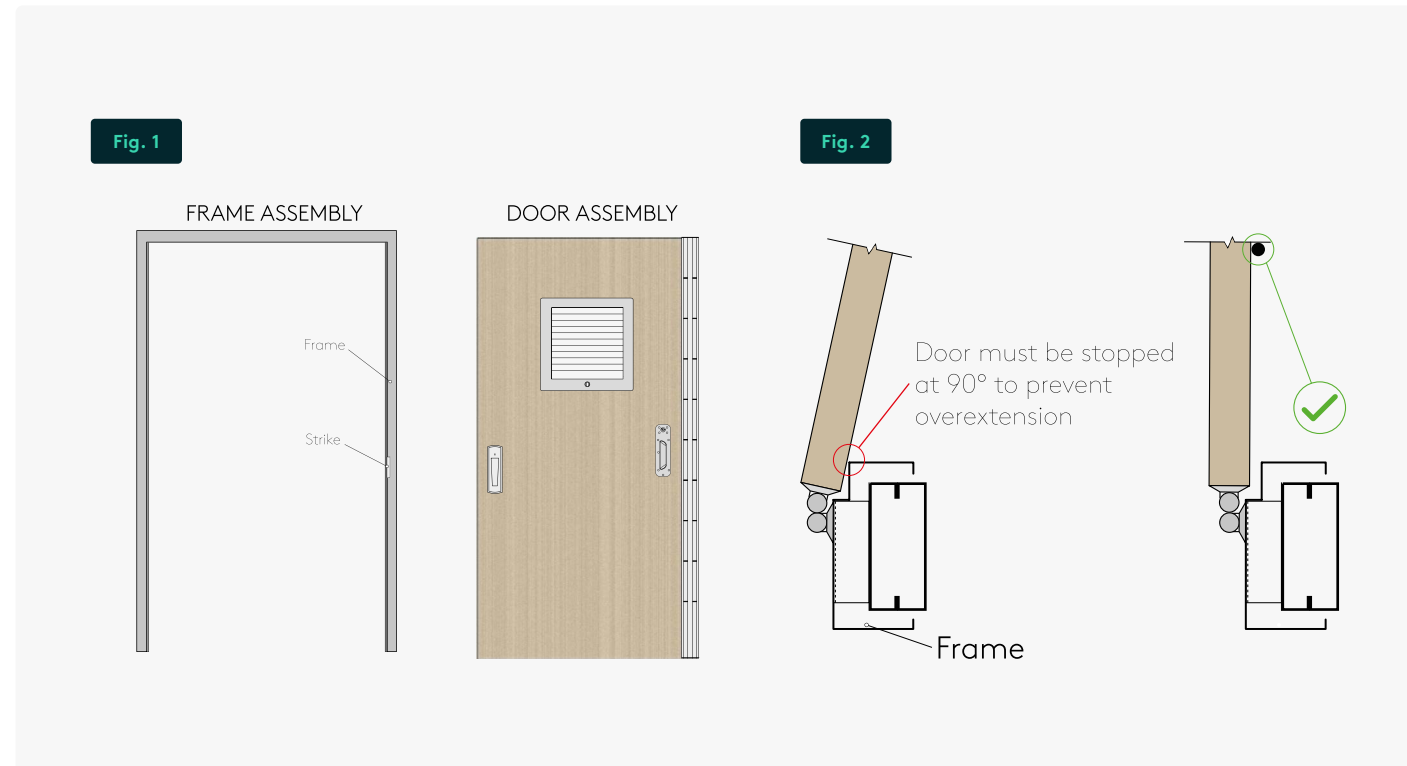

Fig. 3
- 3 Next, install the SWITCH Door assembly. The frame is pre-drilled to match the hole locations on the hinge. For this step a minimum of (2) persons is required. The door assembly should be maneuvered into the opening in the closed position as shown in Figure 3 & 4.